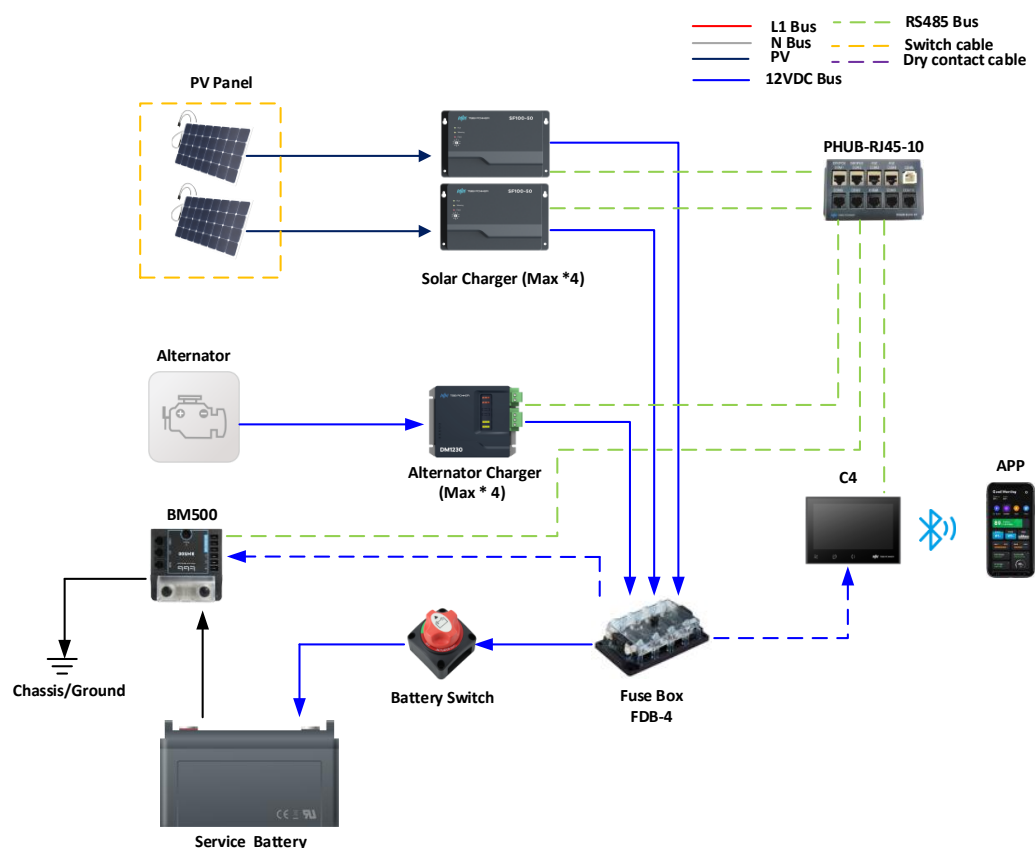

fig 2-4 Battery Pack 02 Mode
4. The wiring diagram for Battery Pack 02 mode is shown in Figure 2.4, and the system configuration list is shown in Table 2.4.